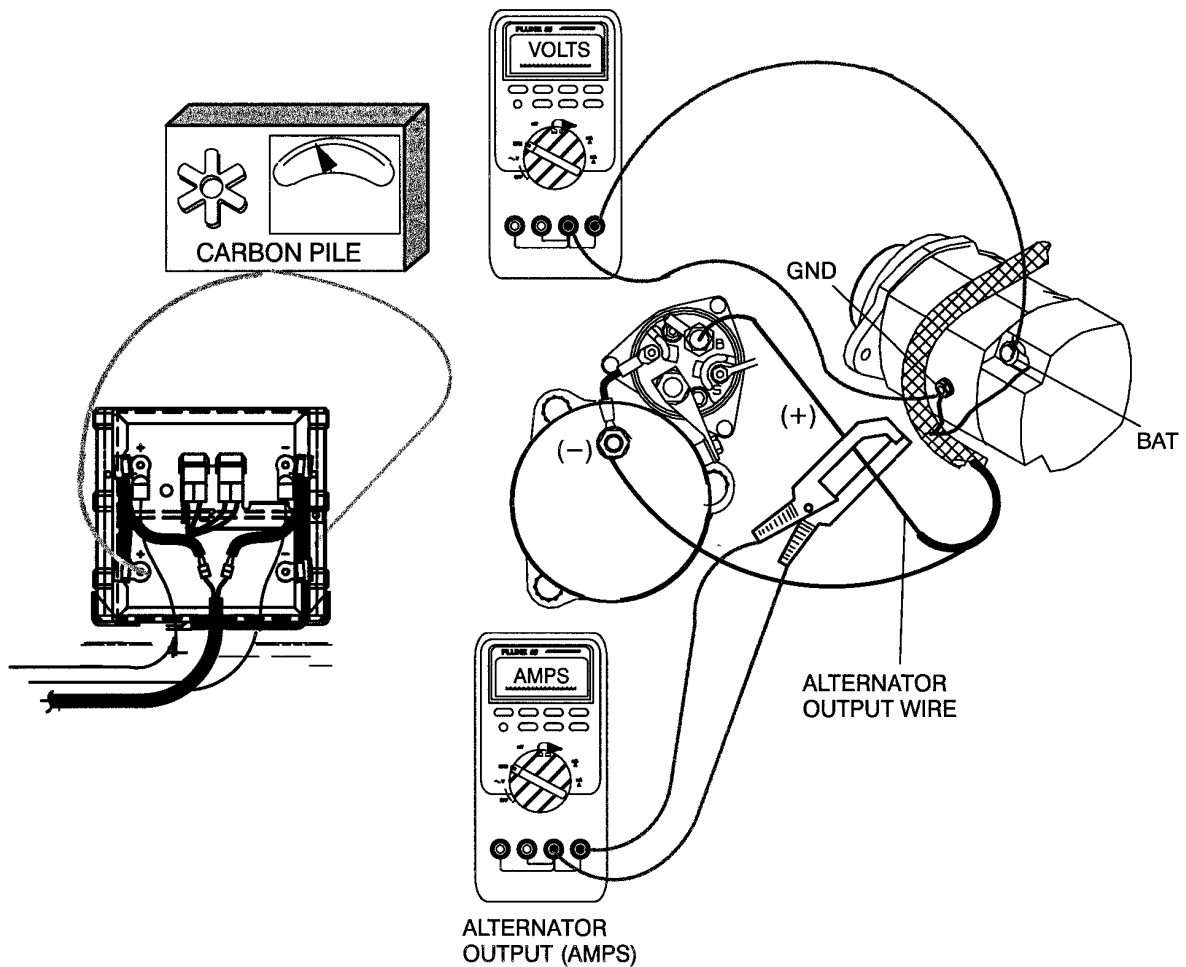

Figure 12 Alternator Replacement Test (12 Volt System Only)
**Alternator Replacement Test (12 Volt System Only) (Figure 12)**